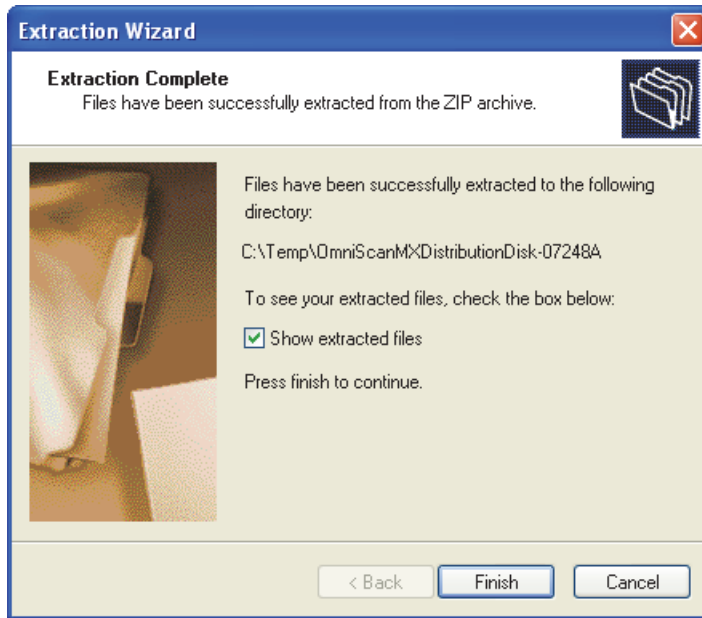

Figure 4-10 The Extraction Complete screen of the Extraction Wizard
13. Wait until the **Extraction Complete** page of the **Extraction Wizard** dialog box appears (see Figure 4-10 on page 84), and then click **Finish**.